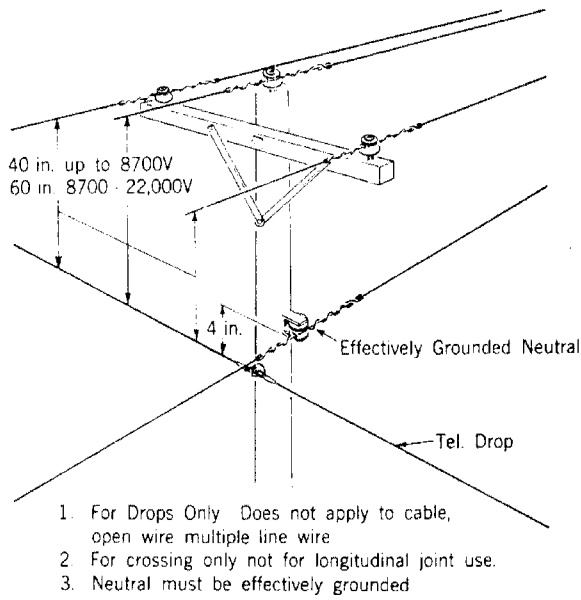

Fig. 9
5. Telephone drop wires may be attached within less than 40 inches on common crossing poles (but not less than 4 inches), provided the requirements of (a) above are met. No reduction in clearance is permitted for longitudinal joint use, nor for common crossing poles where cable, open wire, or multiple line wire is involved. (See Fig. 9.)